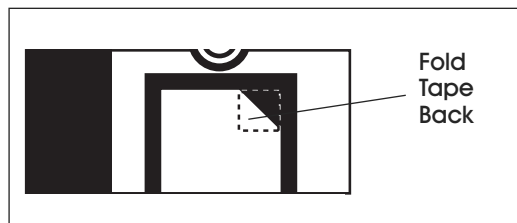

Figure 1
2. Set tape on the center of reel and stick the end of the tape onto the metal feed roller. Press ADVANCE key until tape feeds through cutting unit. If the tape will not feed through the cutter, fold corners of the tape to form a triangle shape and re-feed. (See Figure 1)